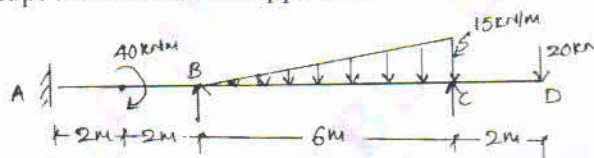

Fig.Q5
- 5 Analyse the continuous beam loaded as shown in Fig.Q5 by the matrix flexibility method, and draw the BMD. Adopt transformation approach. (20 Marks)